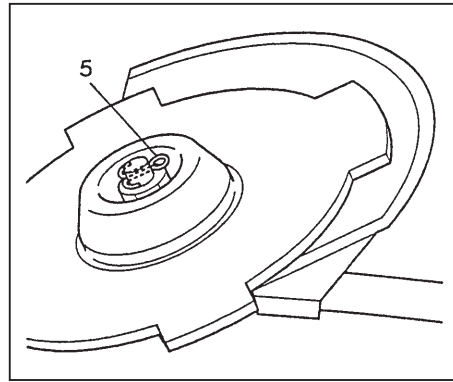

Fig. 1-10B
If your unit is of a nut-securing type and equipped with a cotter pin, the blade must be retained with a new cotter pin (5) each time installed. (Fig. 1-10B)